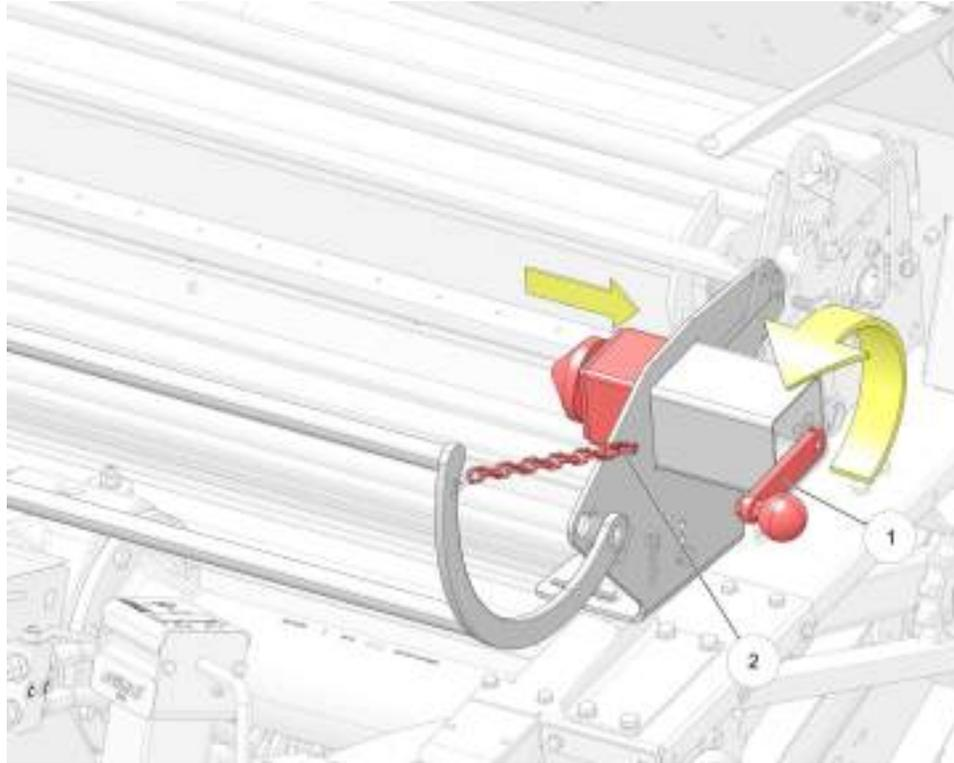

Figure 41. Prepare for a Net Roll
5. Turn the crank handle (1) (see Figure 41 on page 7-17) until the tension spindle has turned inwards to the stop.
6. Remove the safety chain (2) from the net roll holder.